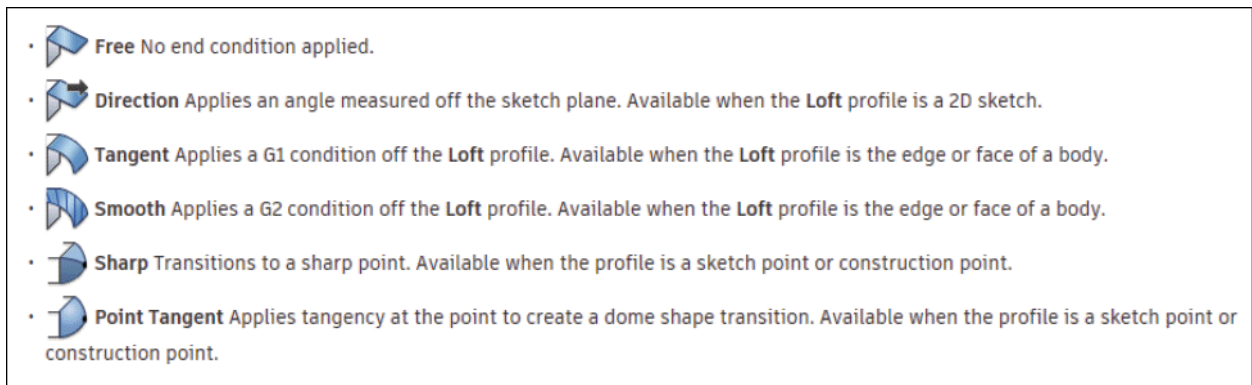

Figure-8. End condition
- Select desired end condition option from the **End condition** drop-down. One line explanation of each end condition option is given in Figure-8.